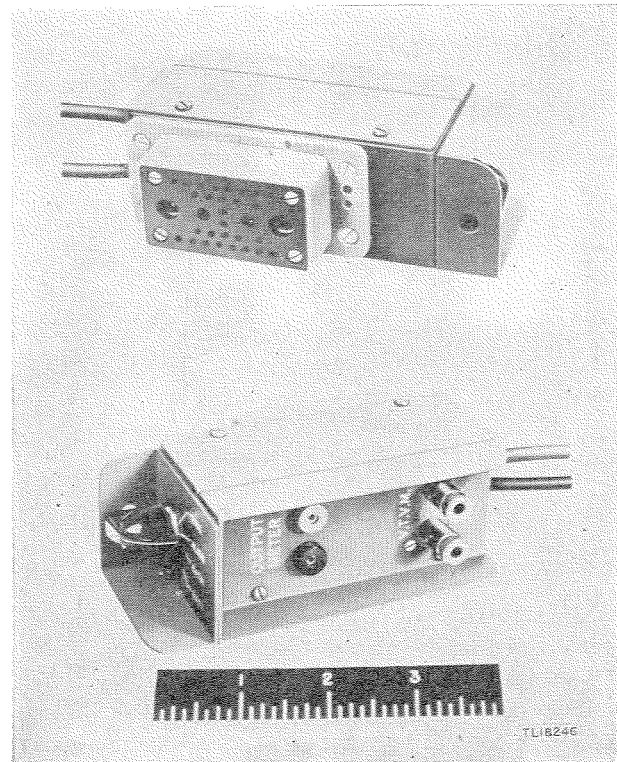

Figure 19. Adapter FT-384-(*)—front and back views.
b. Connect the receiver to the appropriate battery, using either mounting FT-237-(*), fig. 17 and Cord CD-786, or Adapter FT-384-(*). (See fig. 19.)